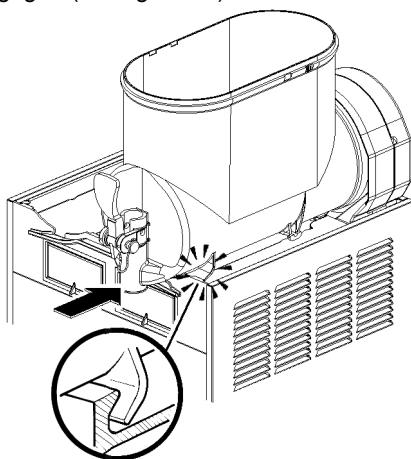

figure 16
- Push the bowl towards the rear wall of the unit until it fits snugly around the gasket and its front fastening hooks are properly engaged (see figure 16).